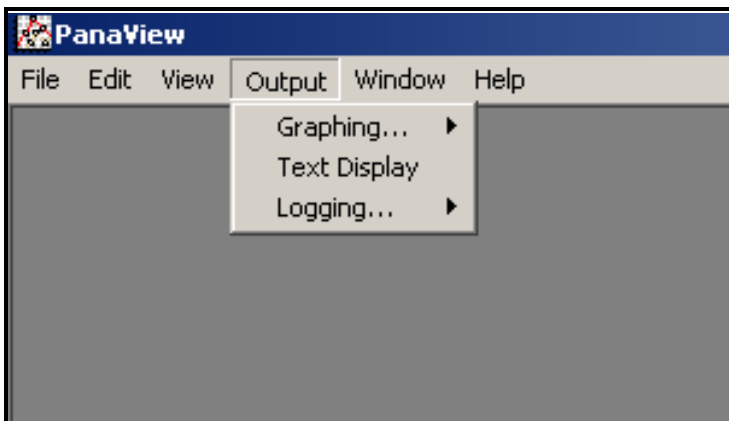

Figure 2-1: Output Menu
To access PanaView's data handling options, pull down the *Output* menu, as shown in Figure 2-1 below.
2. Pull down the *Output* menu and click on the *Text Display* option (see Figure 2-1 on page 2-4).
2. Pull down the *Output* menu and click on the *Graphing - New* option (see Figure 2-1 on page 2-4).